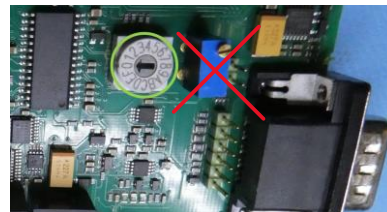

Figure 1
- a. On a Rev.1 power generator, the switch can be found on the circuit board (Figure 1). It is essential to avoid adjusting the spindle potentiometer to the right of the switch (see Figure 1, red cross) and/or causing damage or short circuits on the circuit board!